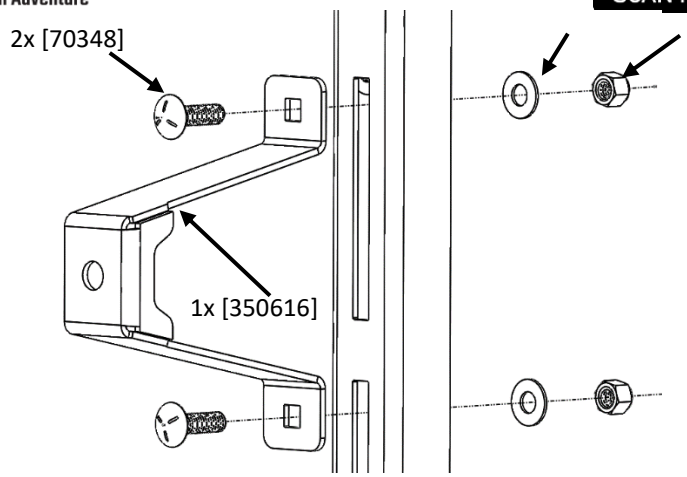

Figure 16: Mounting Tire Bracket
34. Loosely fasten the Tire Mount Bracket to the slotted channel, going through the bracket first, using the 3/8" carriage head bolts, washer, and nut 2x [70028] 2x [70028] mount. Reference Figure 16.